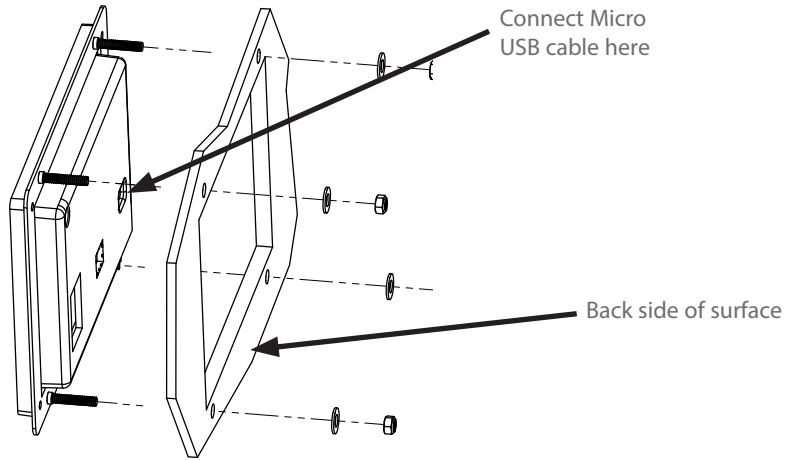
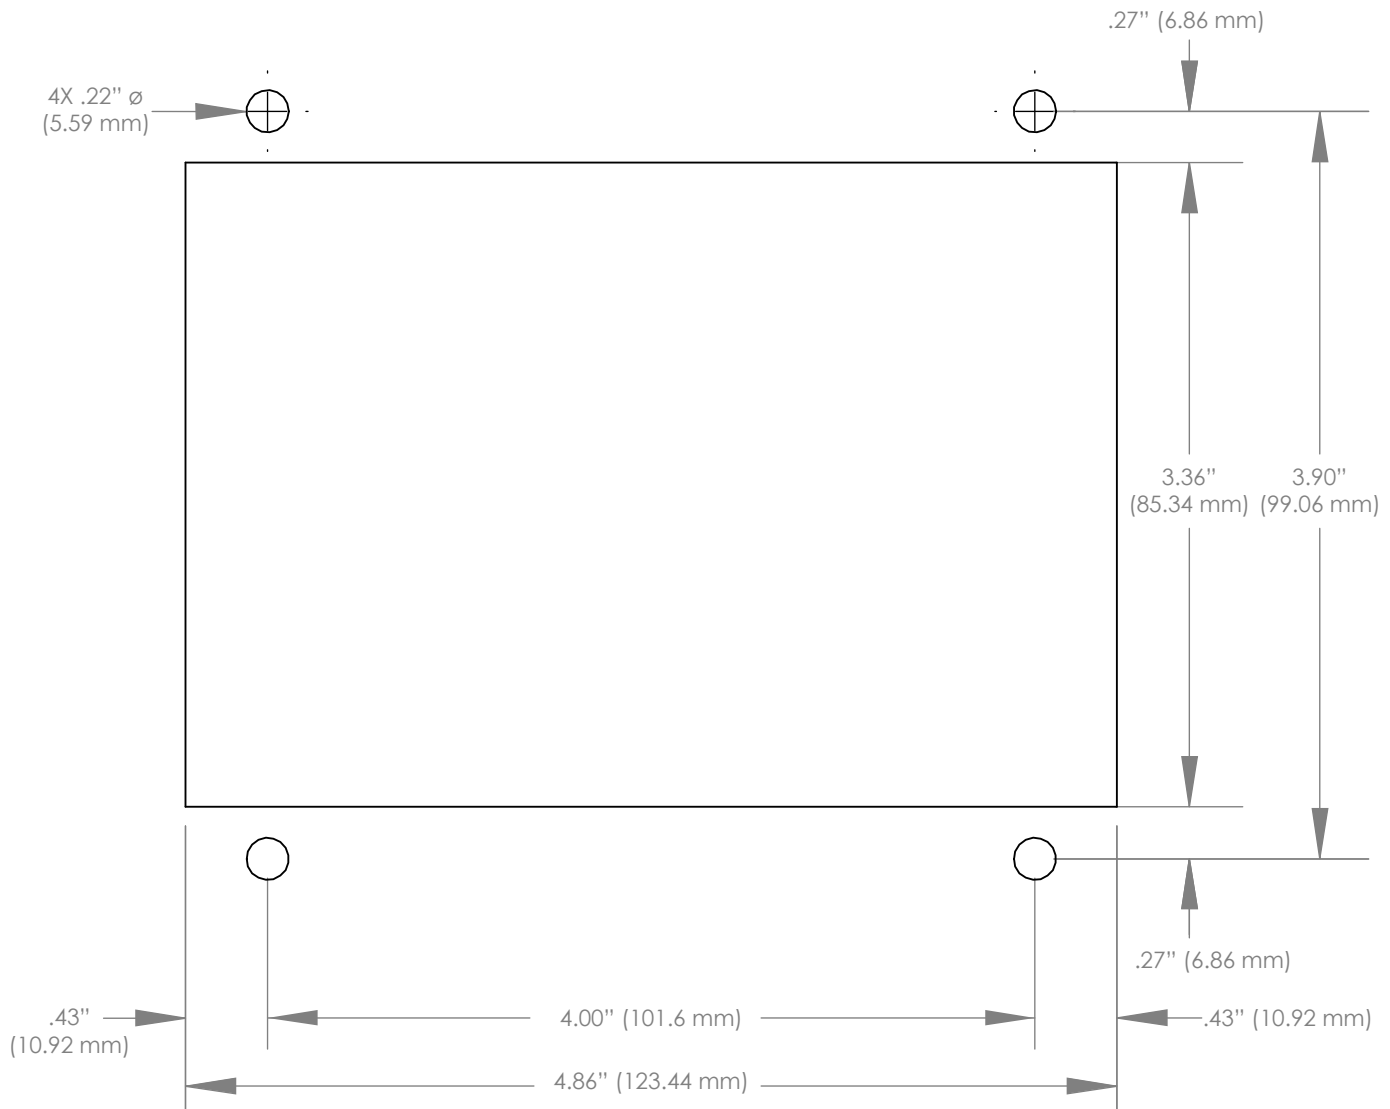

Figure 9: Control Box Installation
Figure 10: Control Box Cutout Dimensions
4. Connect the other end of the Micro USB cable to the control box (Figure 9, page 5) and install the control box using the cutout dimensions in Figure 10 (page 5).